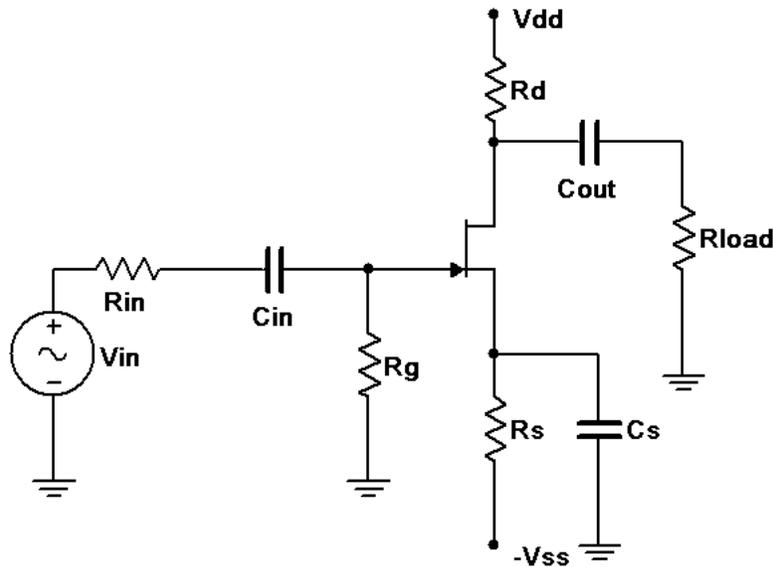

Figure 1
1. Consider the circuit of Figure 1 using  $V_{dd} = 15$  volts,  $V_{ss} = -3$  volts,  $R_{in} = 33$  k $\Omega$ ,  $R_g = 330$  k $\Omega$ ,  $R_s = 4.7$  k $\Omega$ ,  $R_d = 4.7$  k $\Omega$ ,  $R_{load} = 22$  k $\Omega$ ,  $C_{in} = C_{out} = 10$   $\mu$ F and  $C_s = 470$   $\mu$ F. Assuming  $V_{GS} = -2$  volts and  $g_m = 2$  mS (4 mS if using the J112), determine the theoretical gain and input impedance of the circuit and record these in Table 1.
2. Build the circuit of Figure 1 using  $V_{dd} = 15$  volts,  $V_{ss} = -3$  volts,  $R_{in} = 33\text{ k}\Omega$ ,  $R_g = 330\text{ k}\Omega$ ,  $R_s = 4.7\text{ k}\Omega$ ,  $R_d = 4.7\text{ k}\Omega$ ,  $R_{load} = 22\text{ k}\Omega$ ,  $C_{in} = C_{out} = 10\text{ }\mu\text{F}$  and  $C_s = 470\text{ }\mu\text{F}$ . Set  $V_{in}$  to a 100 mV peak sine at 1 kHz. Measure the voltages at the gate and load, and record these in Table 1. Capture images of the input and gate voltages, and the gate and load voltages. Note whether or not the load is inverted compared to the gate signal.